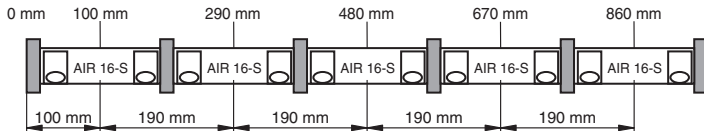

Figure 3.1 Mounting the aluminum section
2. Drill the mounting holes in the aluminum profile between the module holders (in Fig. 3.1 gray surface).